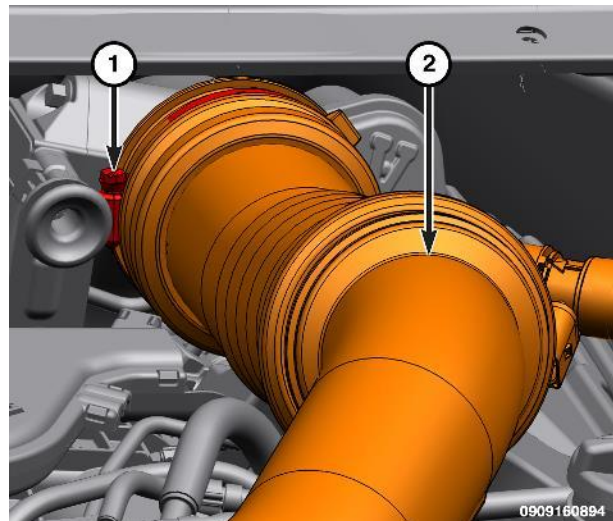

Figure 23 – Clean Air Hose
7. Loosen clamp (1) and remove the clean air hose (2) (Figure 23).